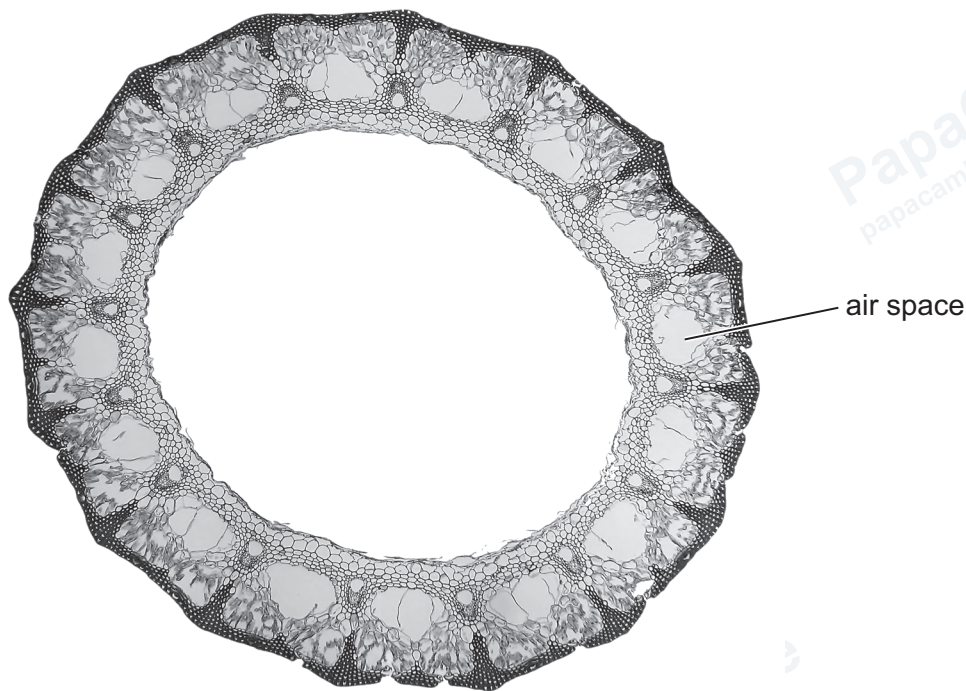
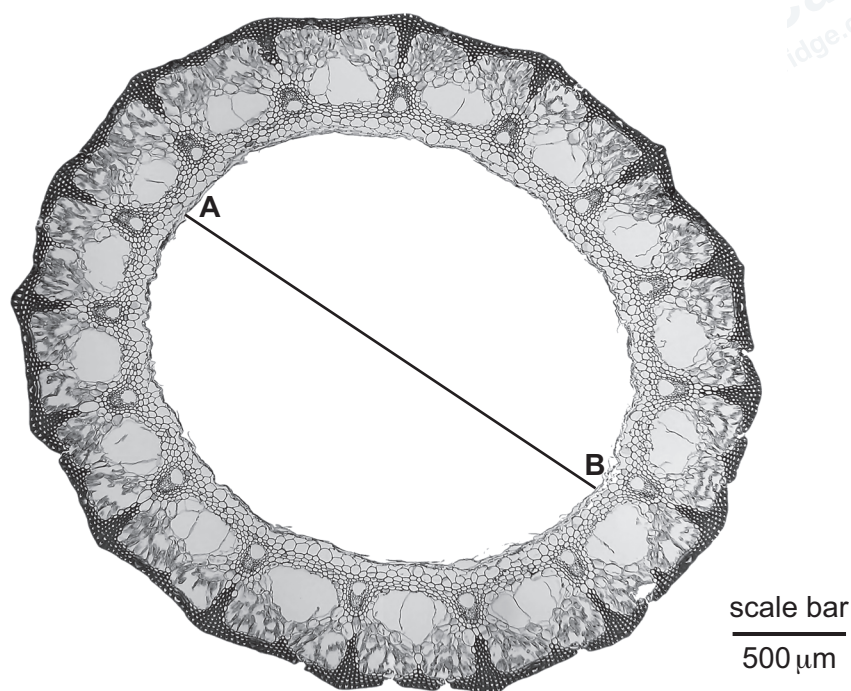

Figure 2.2
Figure 2.3
- (b) Figure 2.2 is a photomicrograph of a stained transverse section of a stem from a different plant.
- (i) Identify **three** observable differences, other than colour, between the section on J1 and the section in Figure 2.2.
- (ii) The stem section shown in Figure 2.2 is from a plant that is adapted to live in a wetland habitat.
State **one** feature visible in Figure 2.2 that adapts the plant to live in this habitat.
(c) Figure 2.3 is the same photomicrograph as that shown in Figure 2.2.
Use the scale bar on Figure 2.3 and the line **A–B** to calculate the actual diameter of the central region in Figure 2.3.